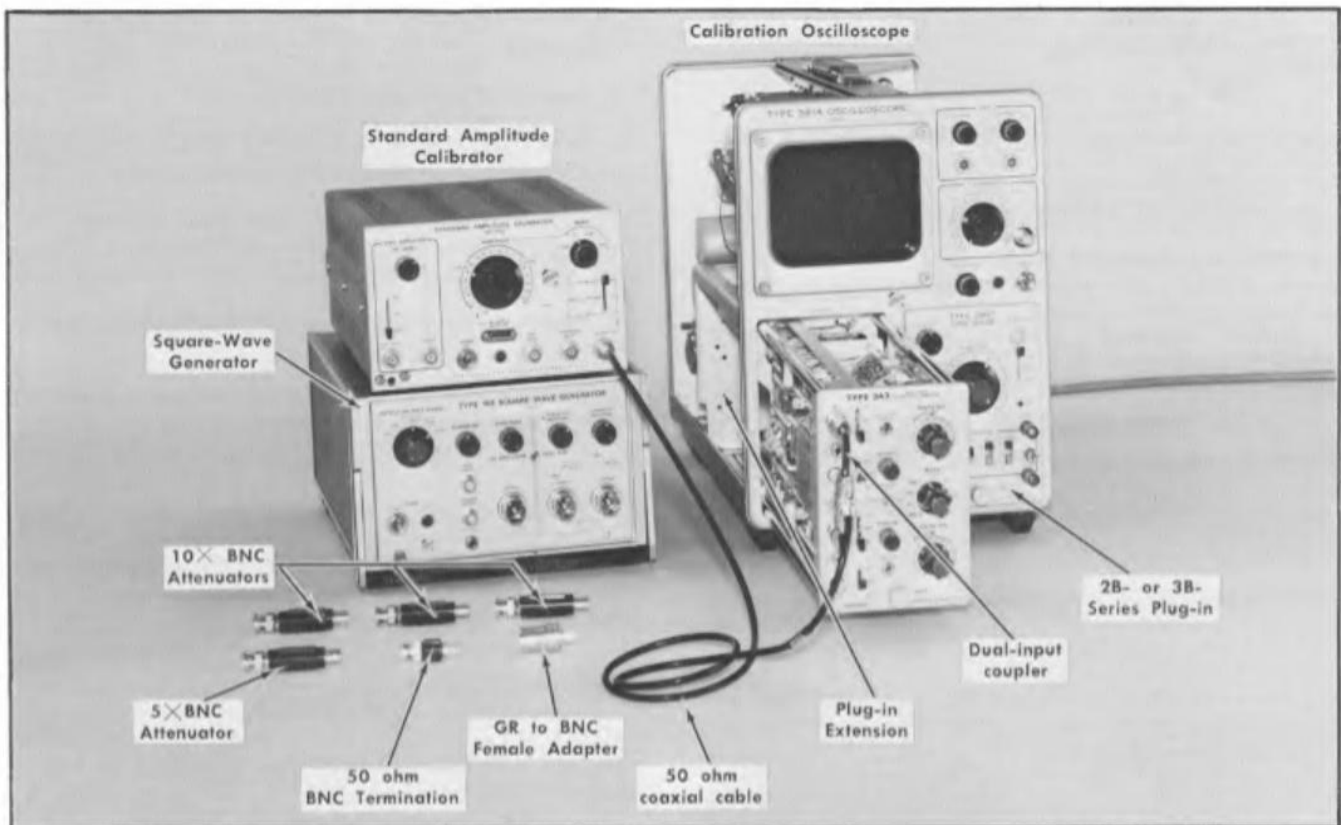

Fig. 6-4. Initial test equipment setup for steps 7 through 13.
a. Test equipment setup is shown in Fig. 6-4.